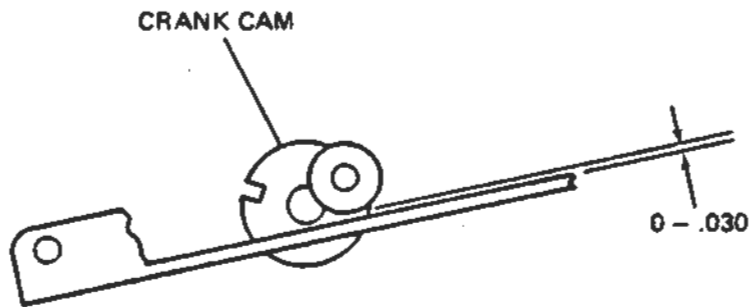

Figure 6-13A. Eject Motor Cam Alignment Check - Carrier Open
- d. Depress eject button on bezel and observe the crank cam rotate to a point where the bearing follower is just clear of impacting the carrier plane, i. e., 0-.030". Once the carrier is open there must be no further contact between the bearing follower and carrier. (Figure 6-13A)